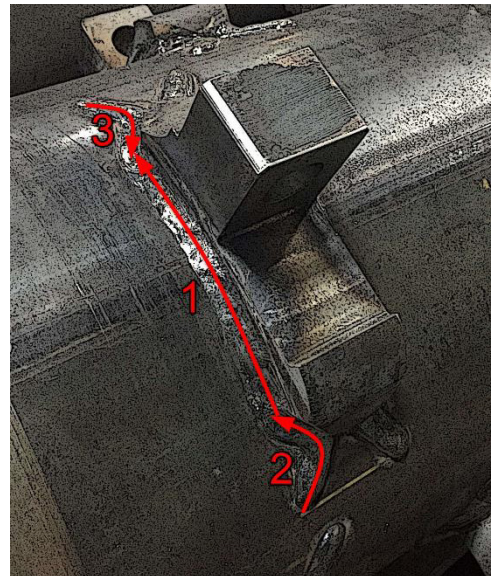

Figure 29
5. Follow the welding pattern in Figure 29.
NOTE: Overlap weld #2 & #3 over weld #1. See Figure 29.